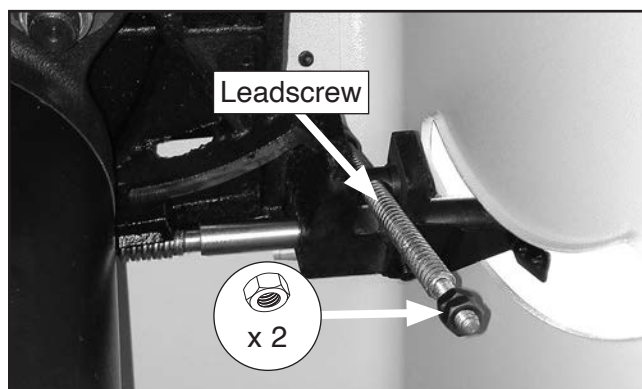

Figure 105. Location of 90° stop nuts.
5. Loosen (2) M8-1.25 hex nuts on leadscrew (see **Figure 105**).